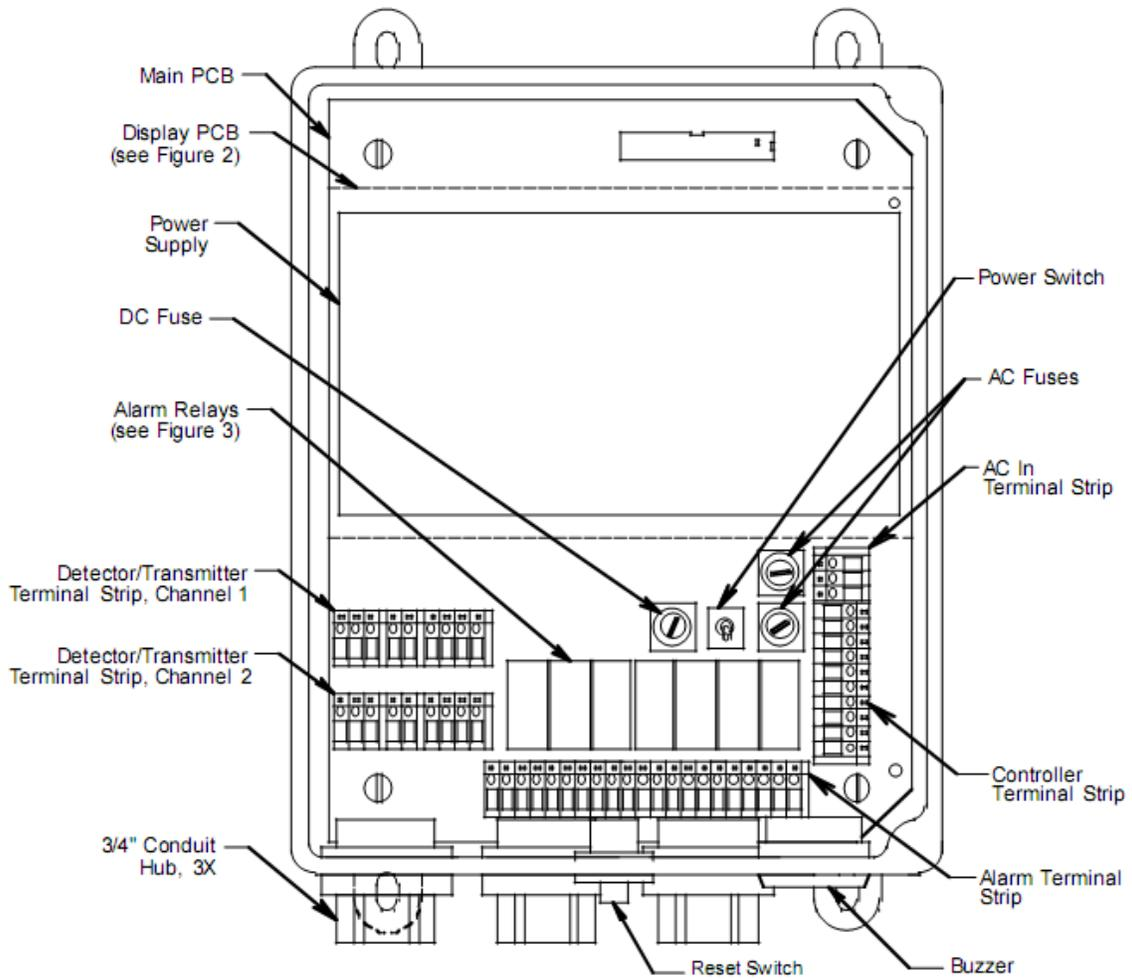

Figure 1. Beacon 200 Gas Monitor Component Location
- **Detector/Transmitter Terminal Strips.** Two detector/transmitter terminal strips are located near the bottom left corner of the main circuit board (see Figure 1). These two 9-point terminal strips facilitate wiring connections to the detectors or transmitters. Although each terminal strip can accommodate several different detector head models, only one detector head at a time may be wired per channel. The top terminal strip is for channel 1 and the bottom terminal strip is for channel 2.
- **Alarm Terminal Strip.** The alarm terminal strip is located along the bottom edge of the main circuit board (see Figure 1). This 21-point terminal strips facilitates wiring connections to external alarm devices (horn, strobe, etc.). Terminals are provided for individual channel as well as common alarm relay contacts.
- **Controller Terminal Strip.** The 10-point controller terminal strip is near the lower right edge of the main circuit board (see Figure 1). The controller terminal strip facilitates various internal and external wiring connections. Table 3 lists the function of each terminal.
- **AC In Terminal Strip.** The AC in terminal strip is a 3-point terminal strip located above the controller terminal strip (see Figure 1). It facilitates wiring from the AC power source. Table 4 lists the function of each terminal.
- **Channel relays.** The four channel relays are above the alarm terminal strip (see Figure 1). These relays are dedicated to specific channels and alarm levels.
- **Common relays.** The three common relays, alarm 1, alarm 2, and fail, are to the left of the controller terminal strip (see Figure 1). These relays are common for both channels.
The power switch is located above the relays and in between the AC and DC fuses (see Figure 1). The power switch turns the incoming AC power source on and off at the Beacon 200. When the switch is up, the power switch is on.
- 4 Locate the 3-point AC in terminal strip (see Figure 1). The terminals are labelled LINE, NEUT, and GND.